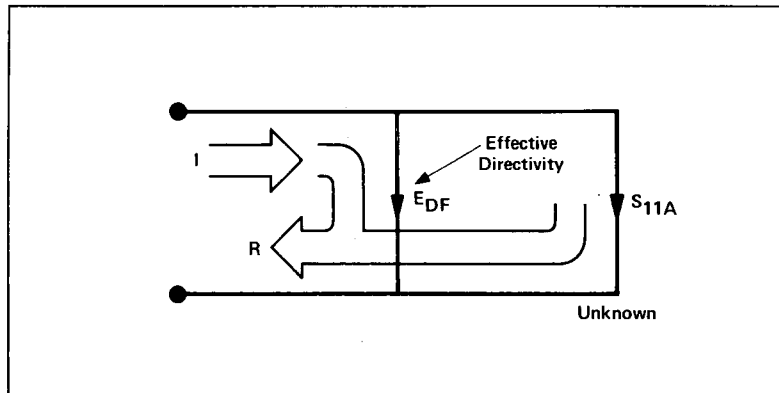

Figure 5-34
However, all of the incident signal does not always reach the unknown (see Figure 5-34). Some of (I) may appear at the measurement system input due to leakage through the test set or other signal separation device. Also, some of (I) may be reflected by imperfect adapters between signal separation and the measurement plane. The vector sum of the leakage and miscellaneous reflections is directivity, EDF. Understandably, the measurement is distorted when the directivity signal combines vectorally with the actual reflected signal from the unknown, S11A.